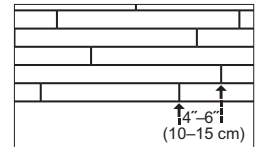

Figure 4
- When installing as a linear pattern be attentive to staggering the ends of the boards at least 4"–6" (10–15 cm) when possible, in adjacent rows (Figure 4). This will help ensure a more favorable overall appearance of the floor.
- Check for a tight fit between all edges and ends of each plank. End-joints of adjacent rows should be staggered 4”–6” (10–15 cm) when possible, to ensure a more favorable overall appearance (Figure 4).